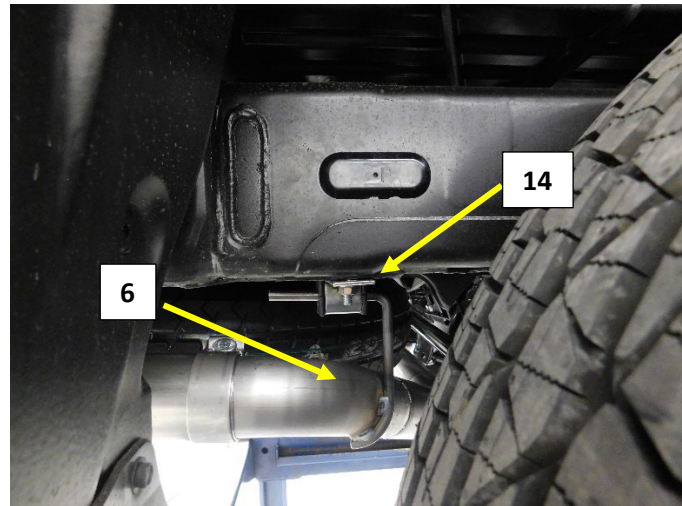

Figure.15
15. Install a supplied tail pipe frame hanger (14) on to the left tail pipe hanger rod. Rotate the tail pipe up and position the frame hanger on to the bolt installed into the frame rail and install a flat washer, lock washer and nut. Use the magnet or screwdriver in place to help hold the bolt as the washers and nut are installed. **Fig.15**